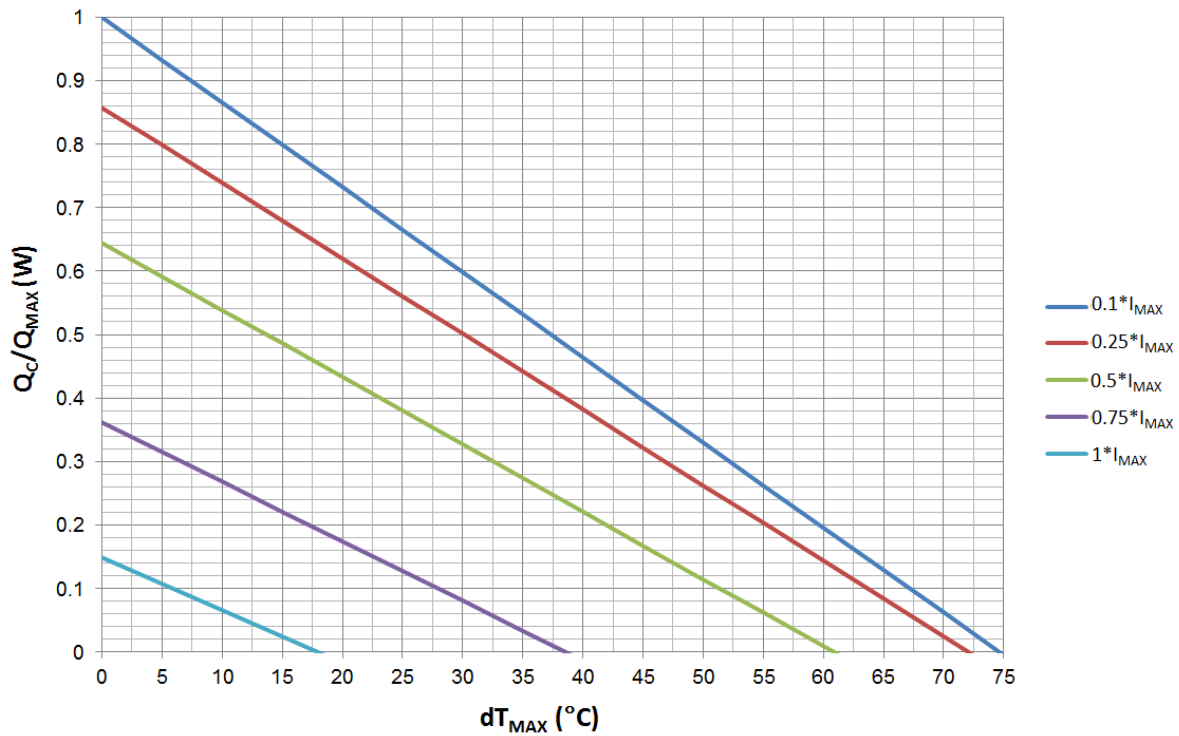
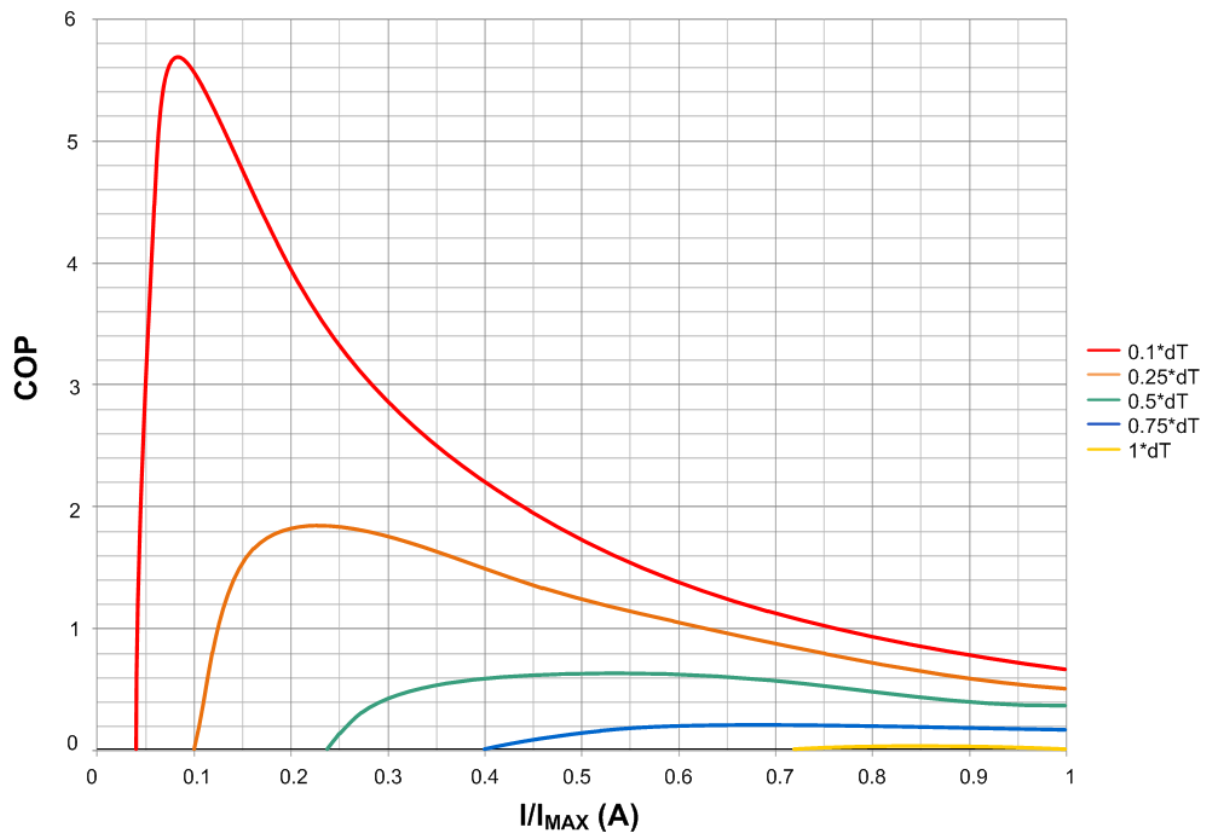

Figure 2. Q_C/Q_{MAX} vs. dT_{MAX}
Figure 9. COP vs. I/I_{MAX}
5. Use the charts provided in Figure 2 to Figure 9, to decide which TEC to use, what is the heat needed to be dumped through the heat sink, what is the heat sink temperature, etc.